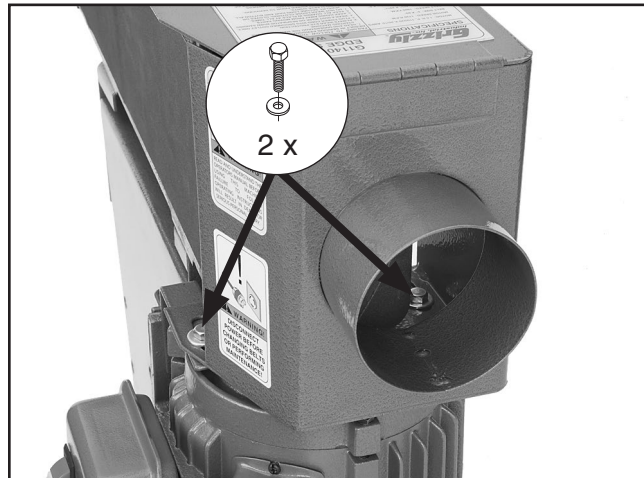

Figure 12. Dust hood installed.
- Position the dust hood approximately 1" away from the main roller and fasten to the sander using the two pre-installed $\frac{5}{16}$ "-18 hex bolts and flat washers, as shown in **Figure 12**.